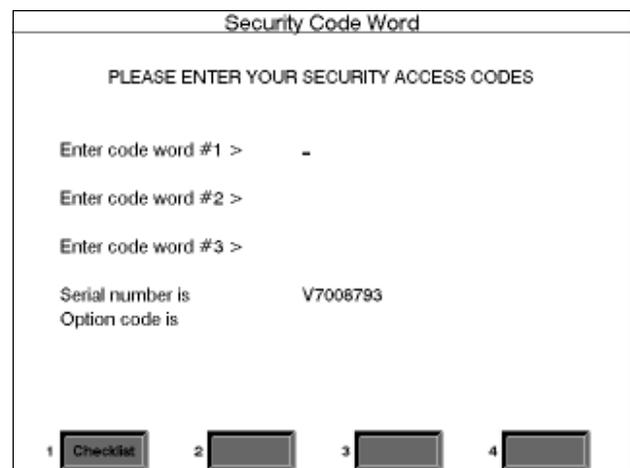

Figure 1 -- Security Code Word Screen
- A) Get to the Security Code entry screen by selecting "Setup" from the Main Menu. Then choose "System configuration". Then last choice on this menu is "Security code word". See *Figure 1*.